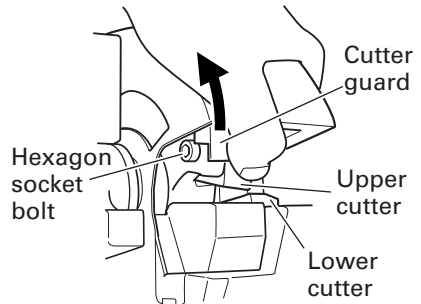

Fig. 10
- If you remove the hexagon socket bolt using the provided Allen key, you can remove the cutter. (Pushing the cutter guard up in the direction of the arrow shown in Fig. 10, facilitates removal of the upper cutter.)